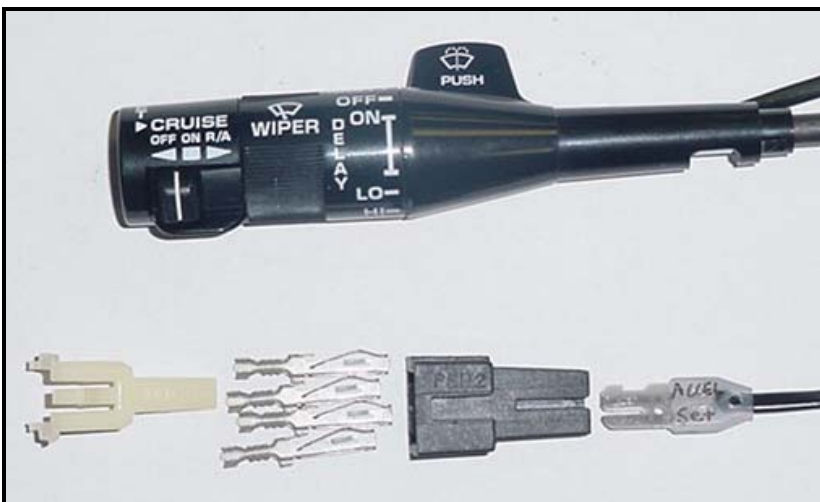

FIGURE 7.4 Cruise Control
- H. **Cruise Control-** There are four cruise control wires in this harness. Most late model GM steering columns years 1983-1993 already have or can be retrofitted with a cruise control switch. See **Figure 7.4** for the proper connection of these wires to a factory GM cruise control switch part number 2511262. This harness kit does not include the connector needed because it has been discontinued by Delphi. The Brown wire is power (connector pin A). The Gray wire is the *cruise control on* switch signal (connector pin B). The Blue wire is the *cruise control set/coast* switch signal (connector pin D). The Gry/Blk wire is the *cruise control resume/accel* switch signal (connector pin C).